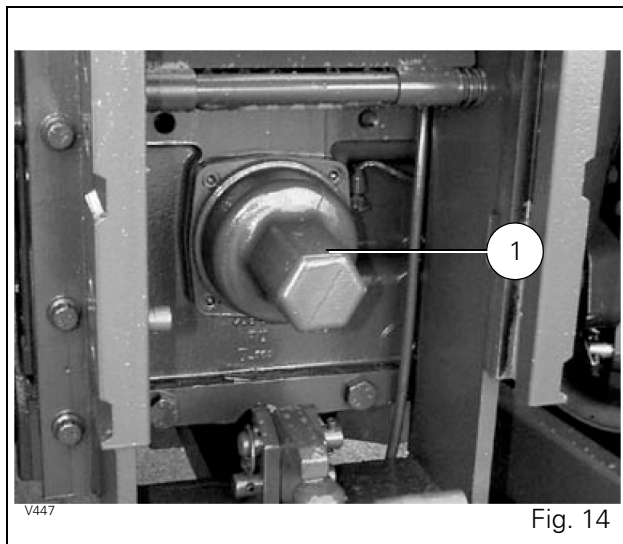

Fig. 14
- Ensure that the PTO shield (1) is in place when the PTO driveline is not in use (Fig. 14).